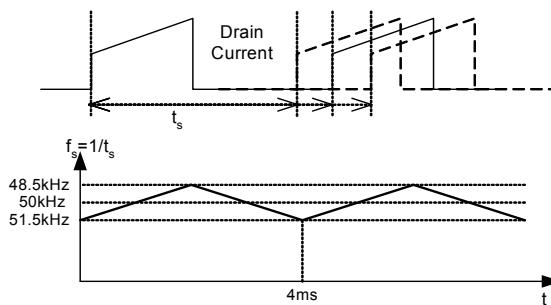

Figure 10. Frequency Modulation Waveform
7. Frequency Modulation : Modulating the switching frequency of a switched power supply can reduce EMI. Frequency modulation can reduce EMI by spreading the energy over a wider frequency range than the bandwidth measured by the EMI test equipment. The amount of EMI reduction is directly related to the depth of the reference frequency. As can be seen in Figure 10, the frequency changes from 48.5KHz to 51.5KHz in 4ms for the FSDL0165RN. Frequency modulation allows the use of a cost effective inductor instead of an AC input mode choke to satisfy the requirements of world wide EMI limits.